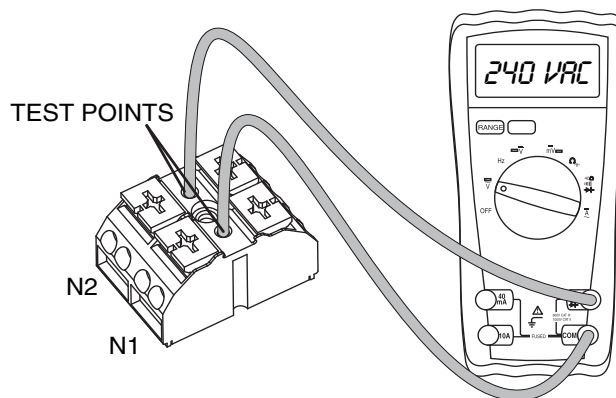

Figure 128. Terminal Block Test Points
- See Figure 128. Connect one test lead to Wire N1 at the terminal block in the generator control panel. Connect the other test lead to Wire N2. Utility line-to-line voltage should be measured.